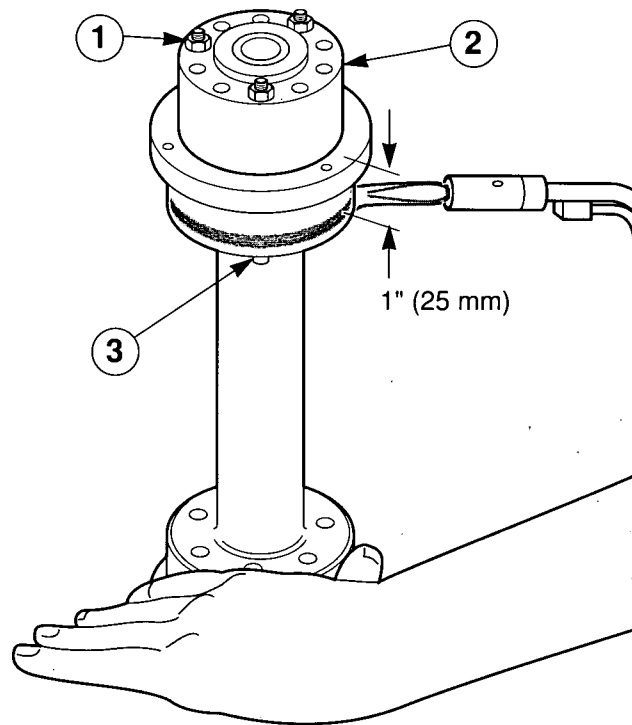

Figure 48 — Installing bearing block. (1) Nut, (2) Bearing Block, (3) Installation Pin.
2. **Insert three (3) installation pins** into three (3) somewhat evenly spaced holes in bearing block. Snug nuts just to retain pins.
4. **Rotate spindle slowly by hand** while applying heat with a propane torch 1" (25 mm) below top of spindle (Figure 48). Spindle will expand from heat and bearing block will drop in. Remove heat.